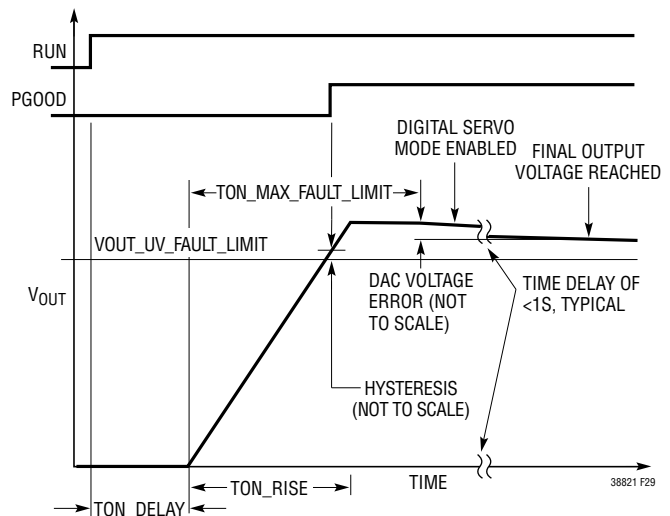
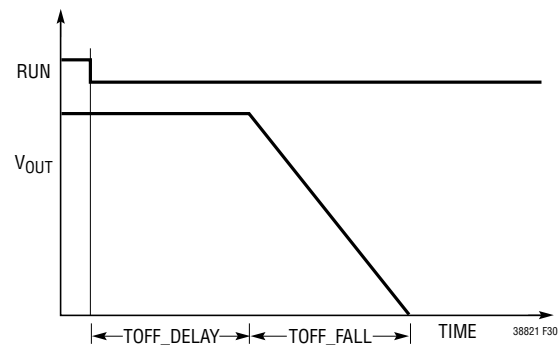
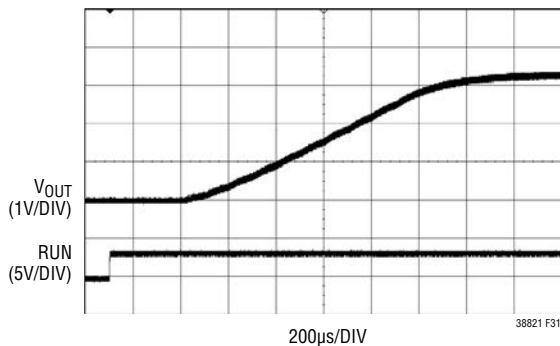

Figure 29. Time-Based V_{OUT} Turn-On
Figure 30. Time-Based V_{OUT} Turn-Off
Figure 31. Example of 1ms TON_RISE
The LTC3882-1 TON_DELAY and $TOFF_DELAY$ commands can be used in combination with the rise and fall time commands covered in the previous section to implement a wide range of versatile sequencing and ramping schemes. The key to time-based sequencing and ramping is the ability of LTC3882-1 master phases to move their outputs up and down according to PMBus command values as shown in Figure 29 and Figure 30.
As shown in Figure 29, it is important to remember that the hysteresis given in the Electrical Characteristics (EC) table applies above $V_{OUT_UV_FAULT_LIMIT}$, which specifies the UV limit when the output is falling out of regulation. For turn-on, the output must rise above this programmed limit plus the hysteresis to avoid exceeding $TON_MAX_FAULT_LIMIT$. $PGOOD$ is indicated at that point. For this reason, $V_{OUT_UV_FAULT_LIMIT}$ should be more than 27mV below the programmed output voltage in low range and more than 54mV below V_{OUT} in high range. There is a fixed delay and other timing uncertainty associated with all changes in output voltage controlled by the LTC3882-1. A nominal fixed timing delay of 270 μ s exists to process any change in output voltage, including soft start/stop, margining and general changes in $V_{OUT_COMMAND}$ value. The start of all time-based output operations occur with an uncertainty of $\pm 50\mu$ s and have a nominal step resolution of 100 μ s. This means the minimum TON_DELAY or $TOFF_DELAY$ that the LTC3882-1 can produce will range from 220 μ s to 320 μ s, not including basic oscillator tolerances. For software-based output changes (e.g., margining), this algorithmic delay begins when the STOP bit is received on the serial bus. An example of this minimum turn on/off delay and step-wise output control can be seen in Figure 31, where $TON_DELAY = 0$ s and $TON_RISE = 1$ ms.
Digital servo mode then engages after TON_MAX_FAULT_LIMIT has expired as shown in Figure 29, unless that limit is set to 0s (infinite). In that case, the mode is engaged as soon as the above conditions are satisfied.